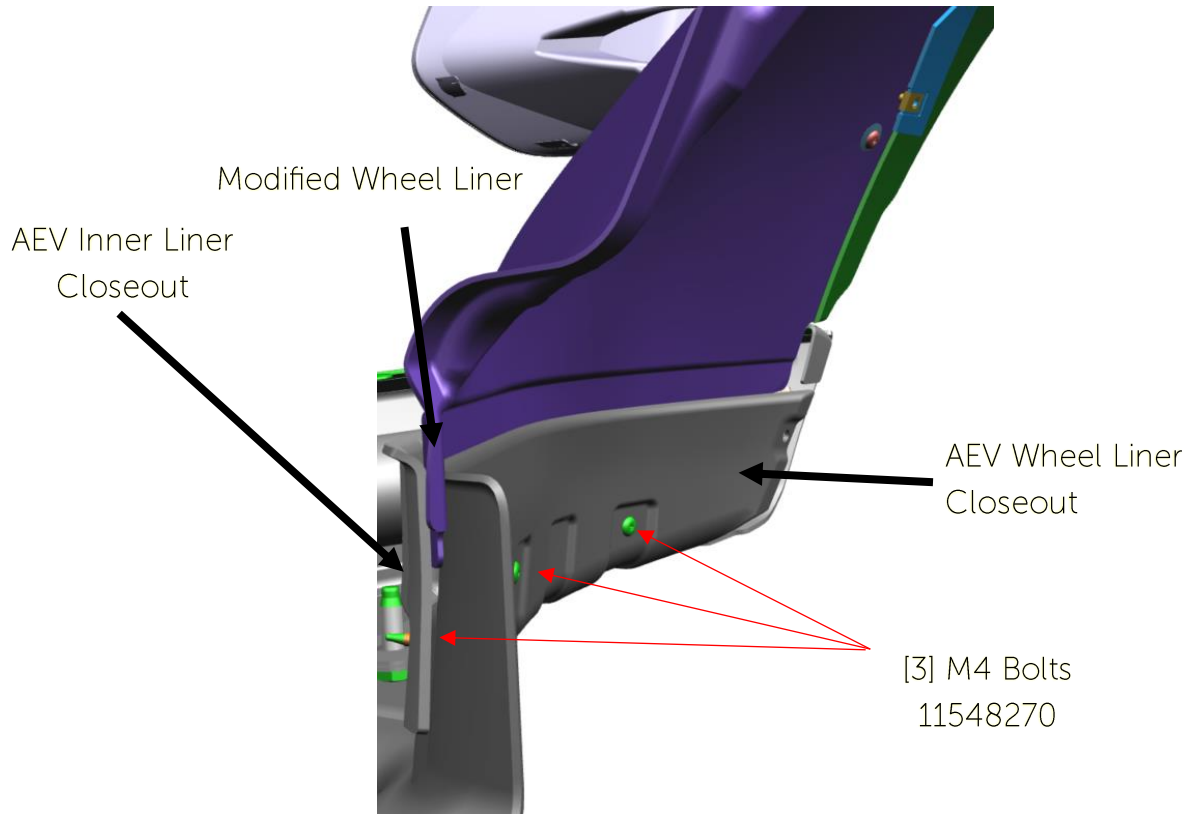

Figure 2 – Passenger Side (RH)
- a. Using [3] M4 Bolt w/ washer (T15 Socket) 11548270 per side, wedge factory Wheel Liner between AEV Wheel Liner Closeout and AEV Inner Liner Closeout (A32B0012/13AA) and torque bolts until wheel liner is secured in slip-joint – Fig. 2